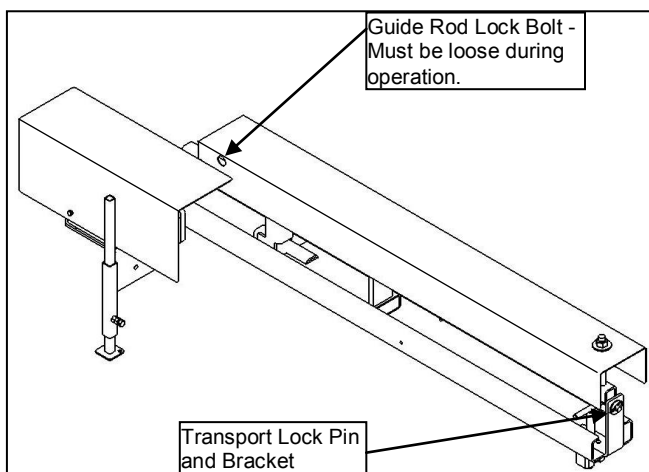

FIGURE 3
3. Slide the sampler towards the center of the pickup box until the pin is inserted in the transport lock bracket. Secure the sampler in the transport position with washer and hairpin. (**Figure 3**)
1. Fully retract cylinder and tighten guide rod lock bolt. (**Figure 3**)